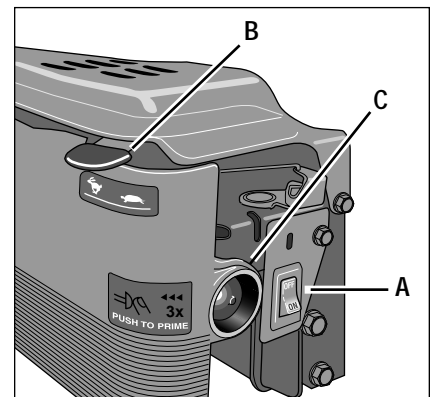

Figure 4-5
- a) Put the engine ON/OFF switch (A, Figure 4-5) in the ON position.
- b) Move the engine throttle lever (B, Figure 4-5) all the way forward to the FAST ("Rabbit") position.
- c) Push in the fuel primer button (C, Figure 4-5) as instructed in the Engine Owner's Manual. NOTE: Priming is usually not needed to restart a warm engine. However, cool weather may require that priming be used.